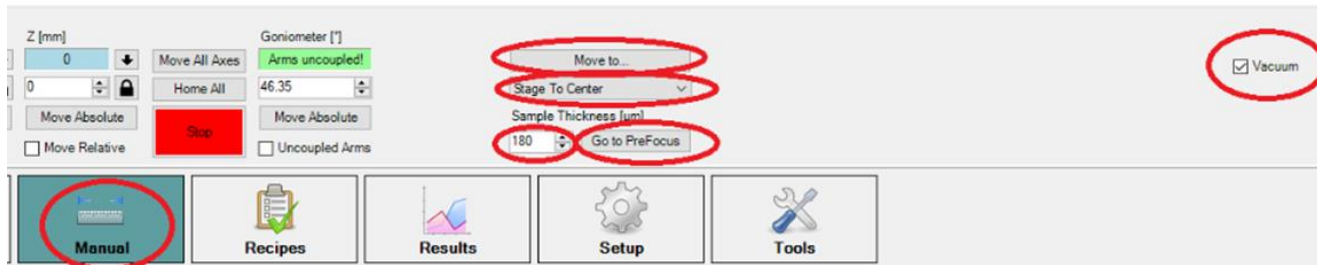

Figure.5
8. Load your sample and switch on the vacuum by enabling the “*Vacuum*” option. (Figure. 5)
9. Select “*Stage to Centre*” option followed by “*Move to...*” (Figure. 5)
10. Input the “*Sample Thickness*” and click on “*Go to PreFocus*”. (Figure. 5)